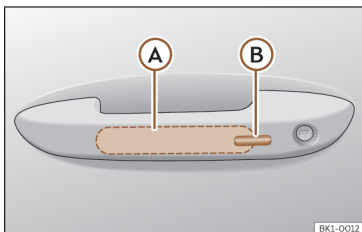

Fig. 86 Driver door lever: sensor surfaces.
>>> Fig. 86
- Touch the sensor surface >>> Fig. 86 (B) on the outside of the door handle. All turn signals flash once
- Within 5 seconds, touch the sensor on the outside of the door handle >>> Fig. 86 (B) once. Do not grip the handle while doing so. This temporarily deactivates the Keyless Access system.